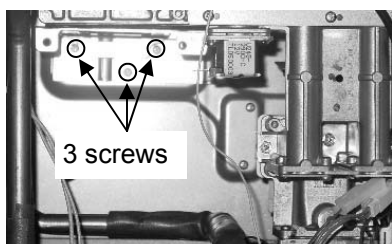

Figure 7
19. Remove 3 screws behind the fan. (Figure 7)
23. Install the new heat exchanger using 2 screws above the exhaust and 3 screws behind the fan. (Figures 7, 8)